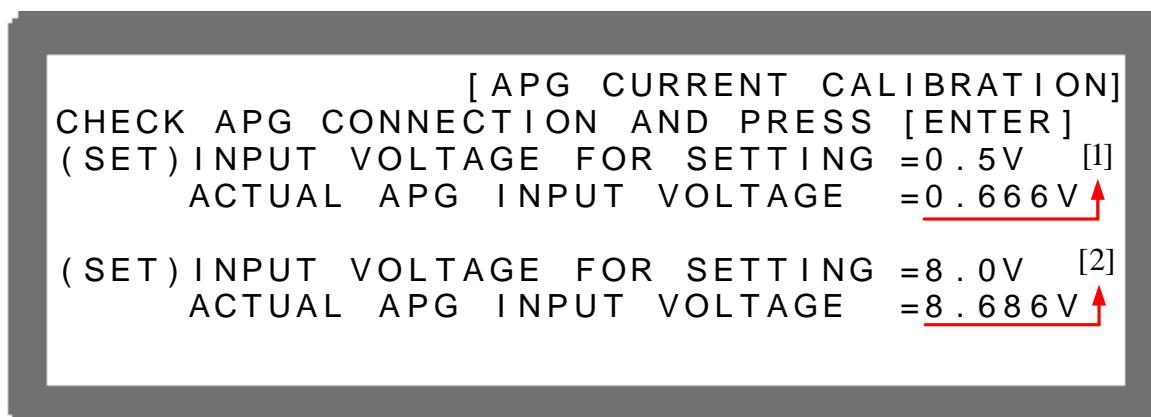

Figure 3-124
4. It will ask users to input about 0.5V voltage signal (Pin 4). The cursor stops at position [1] as Figure 3-124 shows after pressed “” in the above step. Adjust the Power Supply to $0.5V \pm 0.2V$ and use DVM1 to measure the reading of Power Supply. Input the voltage (3 digits after decimal point) read by DVM 1 to position [1] and press “” to confirm.
5. Press “” again will ask users to input about 8.0V voltage signal (Pin 4). The cursor stops at position [2] as Figure 3-124 shows after pressed “” in the above step. Adjust the Power Supply to $8V \pm 0.2V$ and use DVM1 to measure the reading of Power